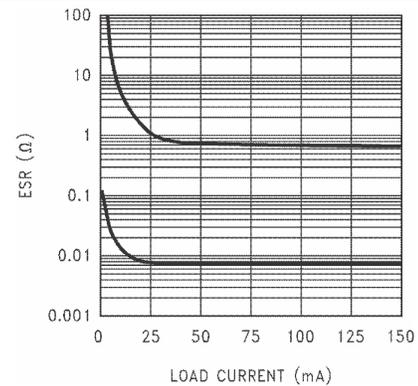
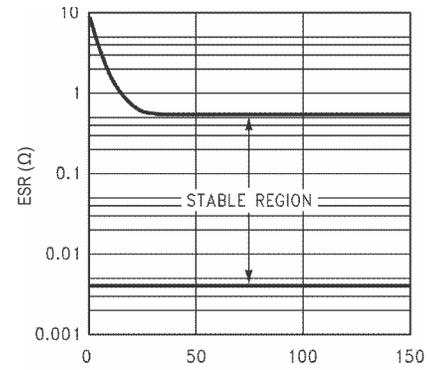

图 5-36. 2.2-  $\mu\text{F}$  Stable ESR Range for Output Voltage  $\leq 2.3\text{ V}$  for Legacy Chip
图 5-38. 2.2-  $\mu\text{F}$ , 3.3-  $\mu\text{F}$  Stable ESR Range for Output Voltage  $\geq 2.5\text{ V}$  for Legacy Chip
- ESR range: see 图 5-36 through 图 5-38